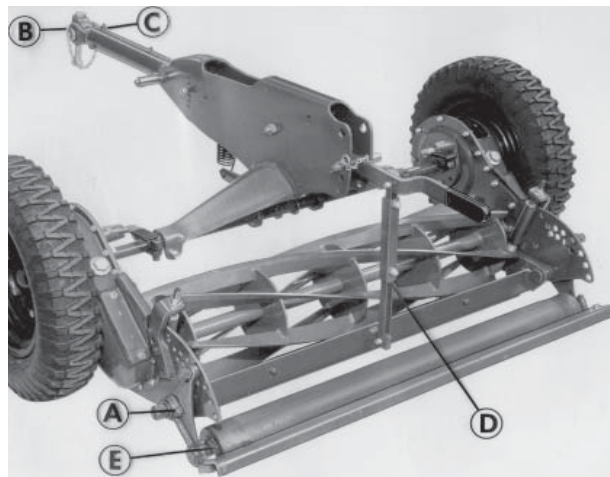

Fig 22
(Fig. 22). There are two lubricating nipples (A) in the rear roller carriages which must be lubricated weekly using oil in the lubricating gun.